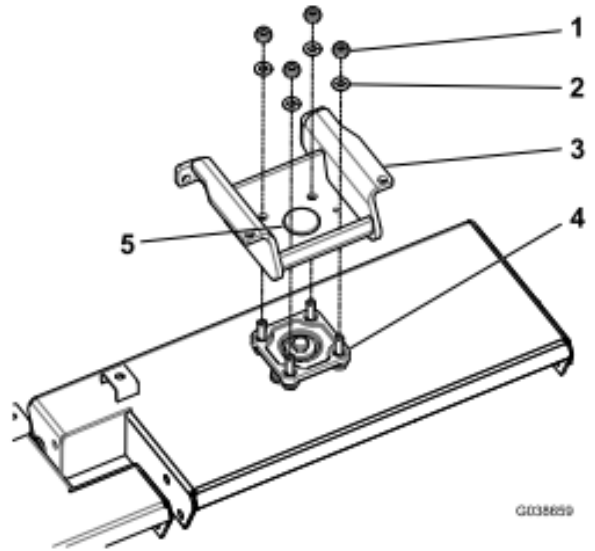

Figure 3
- Remove and discard the existing roller supports (Figure 3).